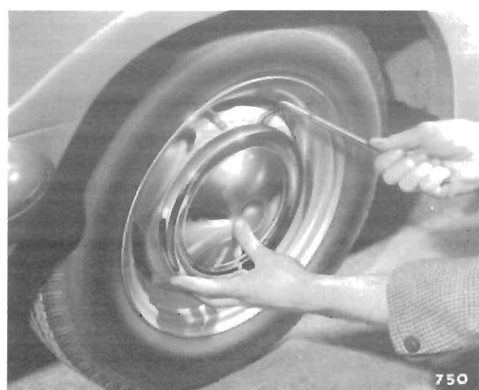

Fig. 1. Removing nave plate (Herald 1200, 12/50 and Spitfire)
1. Using the special lever provided in the tool kit, remove the nave plate as shown on Fig. 1. **Partially** slacken the wheel nuts.